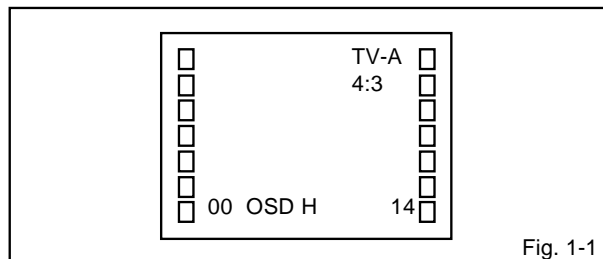

Fig. 1-1
2. Press the VOL. DOWN button on the set and the Channel button (9) on the remote control for more than 2 seconds to appear the adjustment mode on the screen as shown in Fig. 1-1.